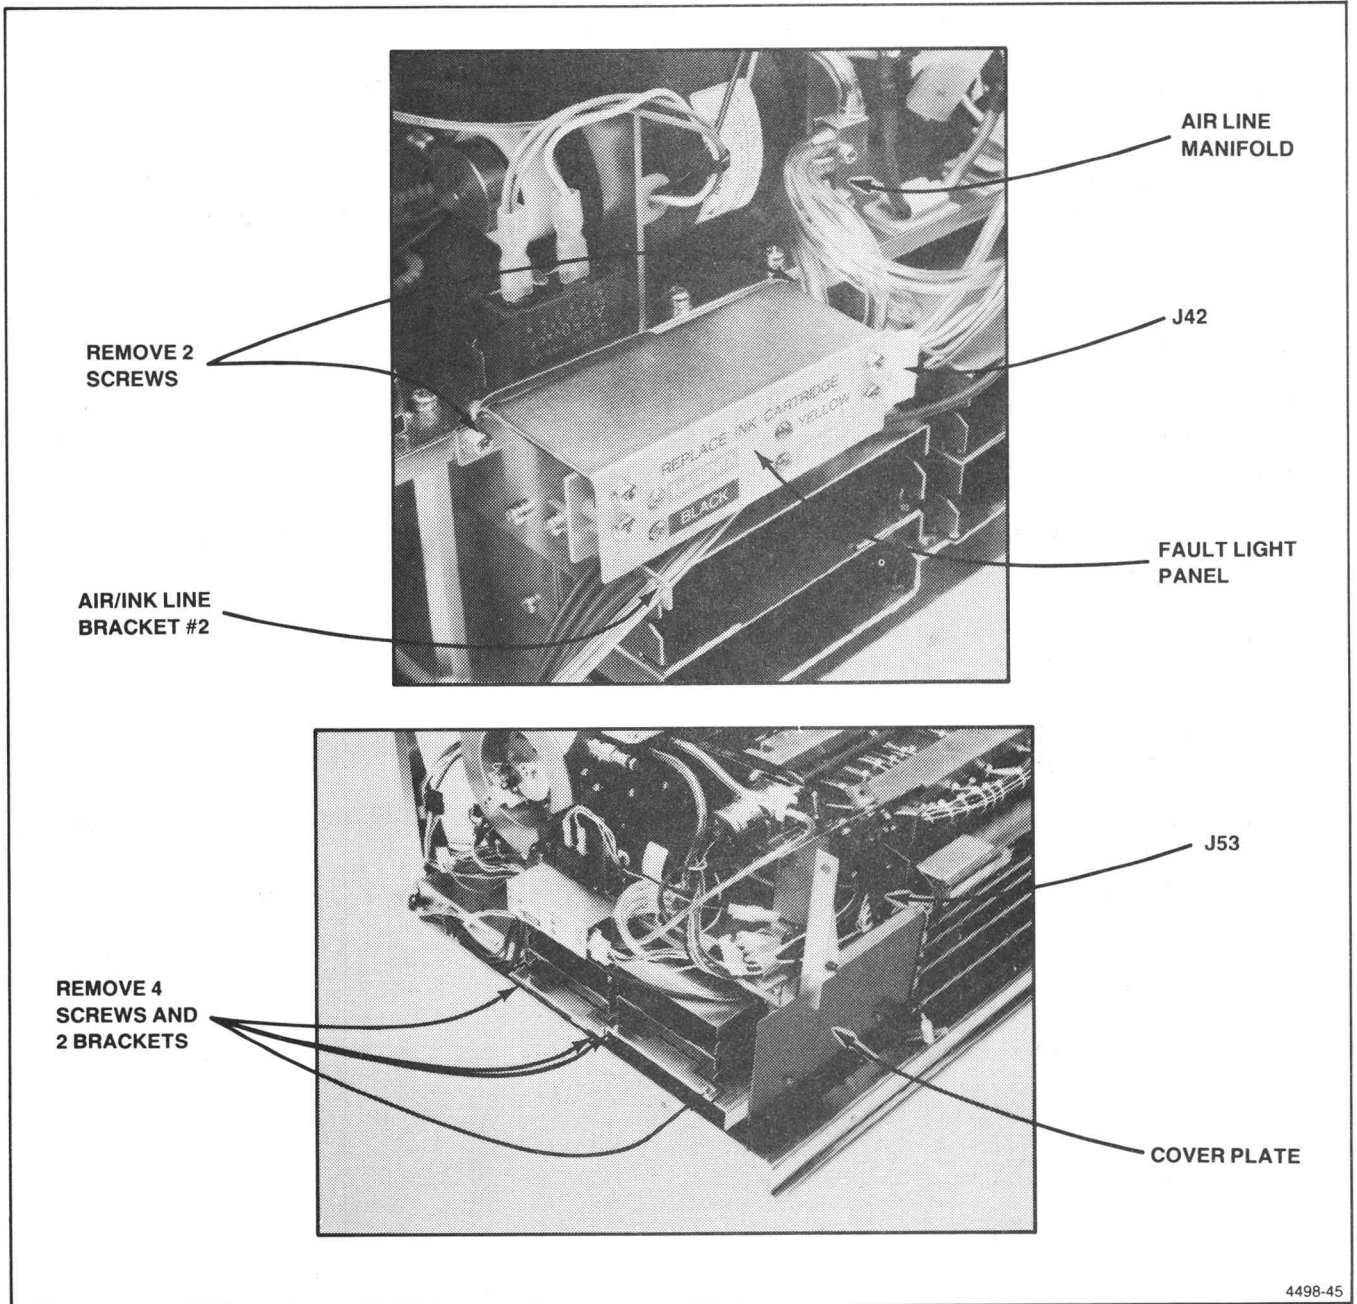

Figure 7-6. Ink Cartridge Housing Removal.
3. Remove the two screws that secure the cover plate on the right side of the ink cartridge housing and set the plate aside. See Figure 7-6.
4. Disconnect J53 (Figure 7-6) which is located between the rear of the ink cartridge housing and the card cage.
12. Remove the screw that holds the air/ink line bracket (#2) to the left housing and slide the bracket down the hose to obtain slack. See Figure 7-6.
2. Remove the two screws that hold the cover plate on the side of the ink housing. See Figure 7-6.